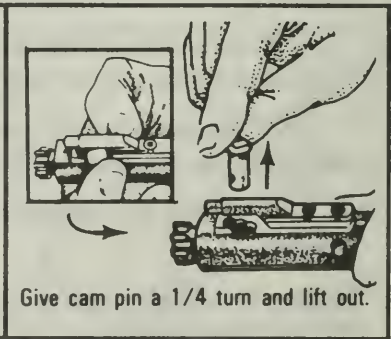

Figure 63. Removing the bolt cam pin.
m. Remove the bolt cam pin (Figure 63). Turn the cam pin one-quarter turn and lift it out.